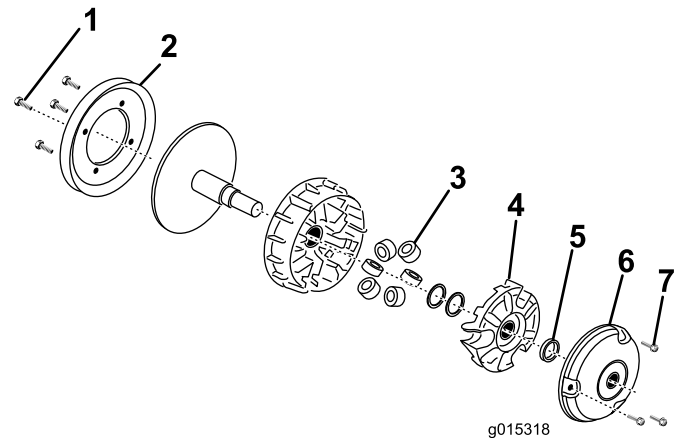

Figure 7
1. Locate the clutch below the exhaust system on the driver side of the engine compartment (Figure 7).
3. Remove the 4 bolts securing the pulley to the back of the clutch (Figure 7).
6. Remove the 3 bolts holding the cover (Figure 7).
7. Remove the limiter shim and save for reassembly (Figure 7).
8. Use the spider removal tool (TOR6016A) to remove the spider, turning it counterclockwise (Figure 7).
9. Remove the 6 rollers and replace them with the new rollers from the kit (Figure 7).